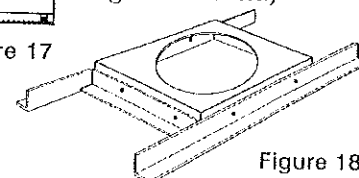

Figure 18
- A tee (RT with a tee cap, RTC) should be used at the lowest point of the liner. A welded angle iron frame (by others) mortared into the chimney walls should be used with the support assembly (Figure 18). Through-bolt the support assembly into the frame with 1/4-20 nuts and bolts (by others) in all holes. Place the supporting collar in the groove at the bottom of the tee just above the locking ring (Figure 1). Tighten the screw so that the collar is firmly clamped into position in the groove. The tee is ready to fit into the support plate.
- Terminate the vent with a tall cone flashing (RTF), storm collar (RS), and appropriate diameter cap.